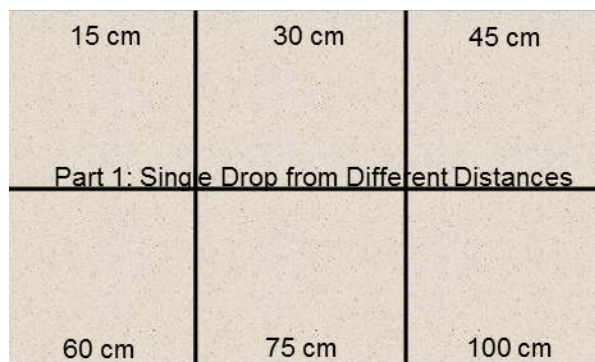

Figure 4: Cardstock setup for part 1.
3. Use the permanent marker to label one edge of the top left area "15 cm" (Figure 4). Label the remaining areas "30 cm," "45 cm," "60 cm," "75 cm," and "100 cm," as shown.